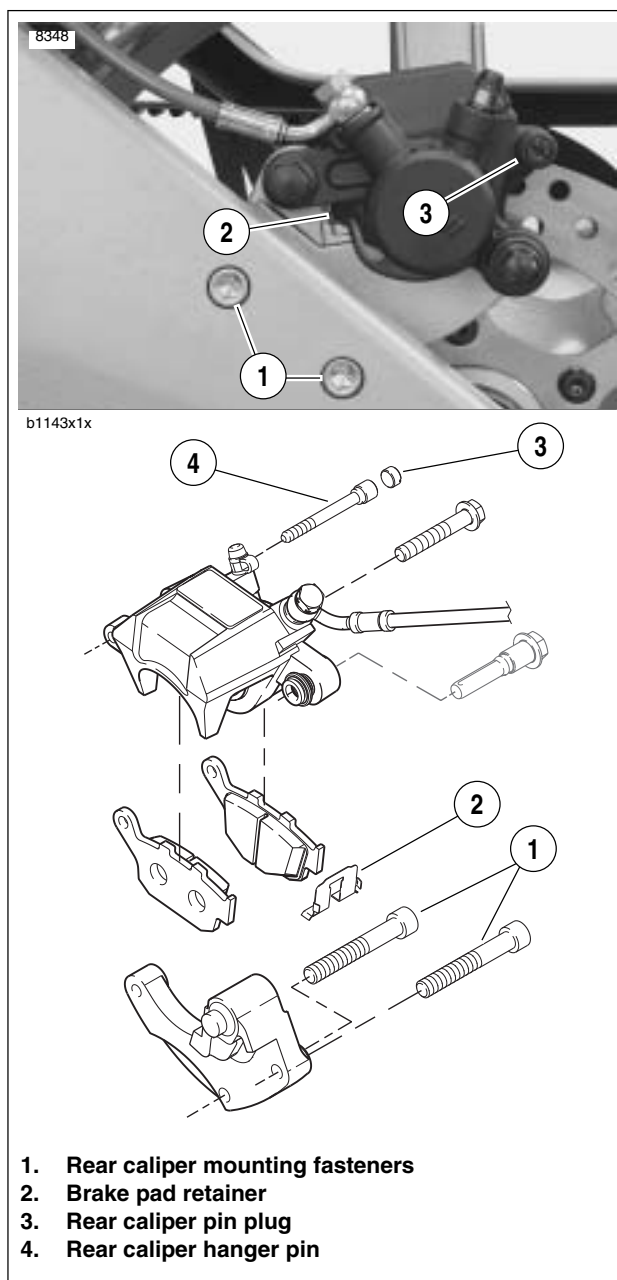

Figure 1-16. Rear Brake Caliper
1. See Figure 1-16. Remove rear caliper pin plug (3) and loosen pin (4).
3. Remove two mounting fasteners (1) securing brake caliper and carrier assembly to swingarm.
5. Remove hanger pin (4).
1. See Figure 1-16. Check that retainer (2) is present.
5. See Figure 1-16. Install hanger pin (4) making sure pin engages hole on both pads.
7. Install two mounting fasteners (1) through swingarm into carrier and tighten to 35-37 ft-lbs (48-50 Nm).
9. Install pin plug (3). Tighten plug to 18-25 **in-lbs** (2-3 Nm).